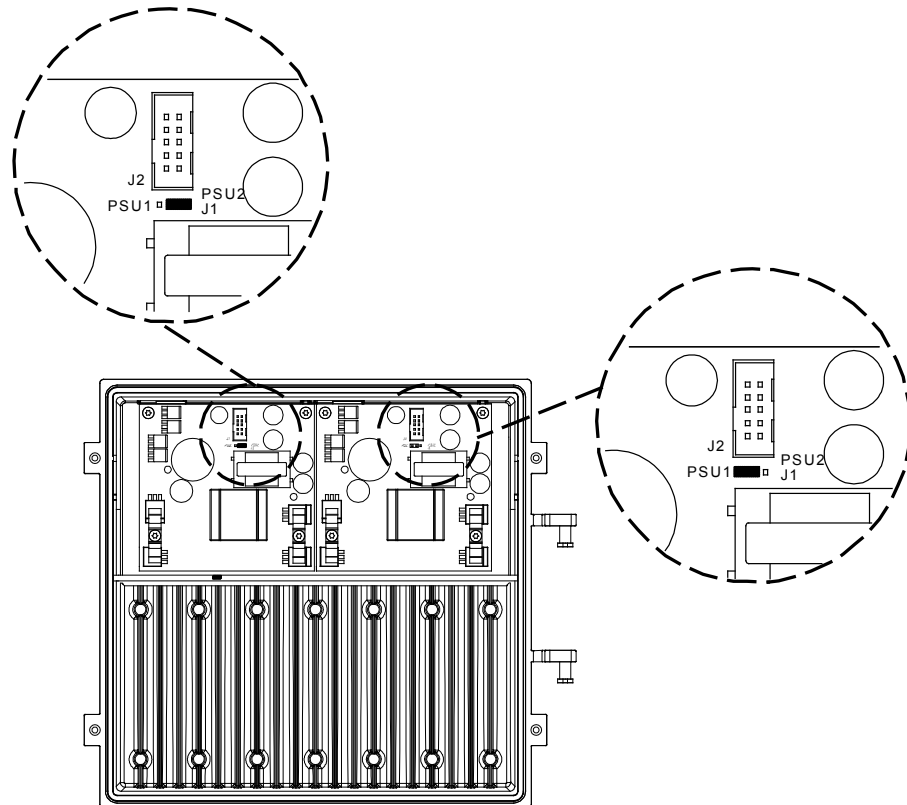

Figure 11. Diagram illustrating the AC8800 lid with both PSUs installed.
Primary and secondary power supplies are physically identical. Their functional differences are controlled by a jumper. See Figure 11 for locations of the jumper pins. The jumper must be positioned prior to installation. The primary power supply unit must be installed into the first place (closest to the hinges). Locate the 10-pin connectors and attach the supplied ribbon cable.
- jumpers is set correctly (Figure 11)